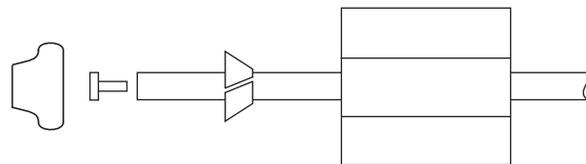

Figure 9.
NOTE: Once the tubing has been pushed into the nut it cannot be pulled out. The nut will need to be removed. See Figure 9 for correct assembly.
5. Slide the plastic nut onto the tubing followed by the ferrule (see Figure 9).